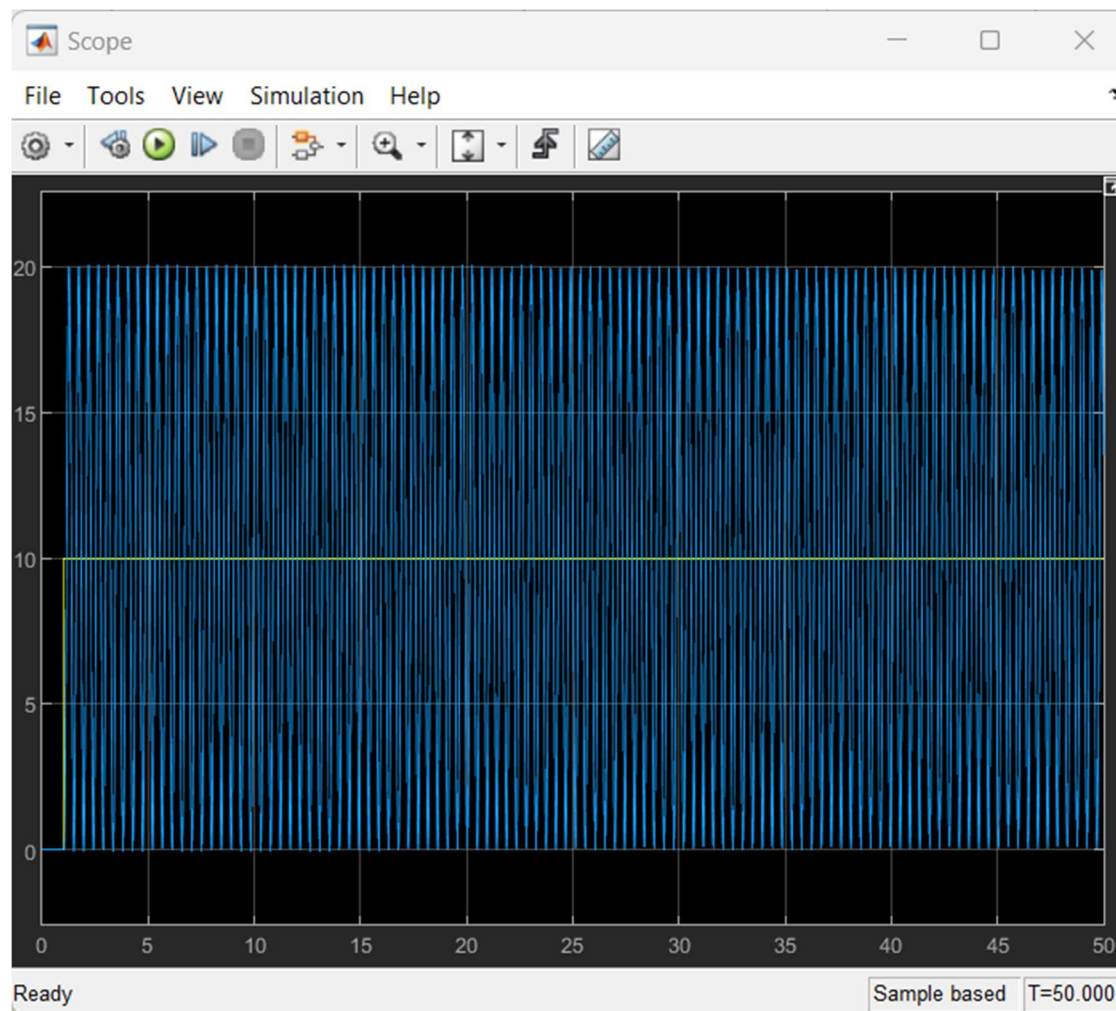

Figure 5 Proportional value
For the calculations, PID values need to start at 0. First step is adjusting the Proportional(P) to get a stable sinus line. The kP value with stable sinus(see figure 5) is 21.038 and this will be recorded as kU for the formula $0.6 \cdot k_U$ which is $0.6 \cdot 21.038$.